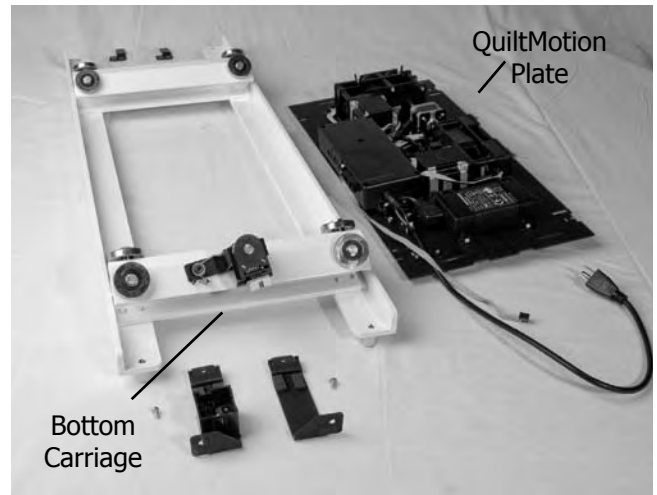

Fig. 1-A
**1-1.** Turn your bottom carriage upside down and make sure the back of the carriage (side with the encoder) is facing towards you, as shown in Fig. 1-A.